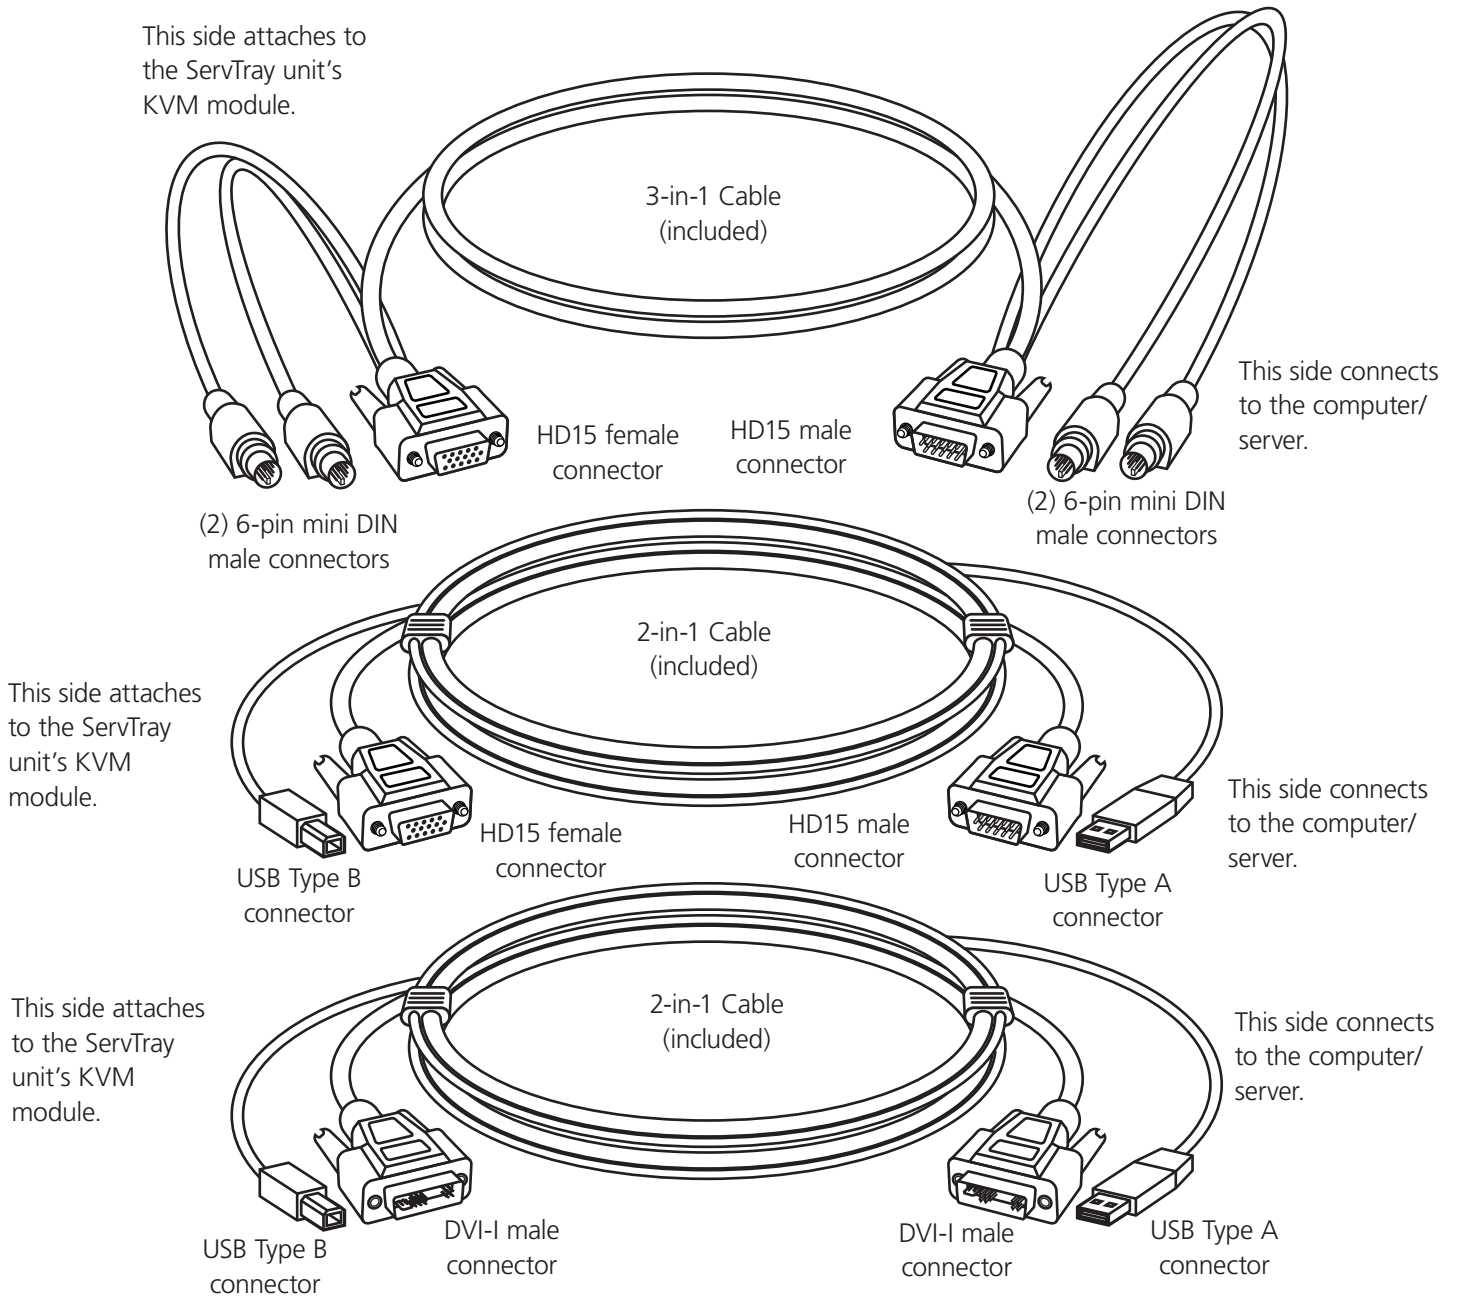

Figure 3-1. 3-to-1 PS/2 cable and 2-to-1 USB cables (all included).
2. Using the 3-in-1 or 2-in-1 cable (all cables included, see Figure 3-1), connect the HD15 VGA female or DVI male, keyboard, and mouse connectors on the cable to the console VGA, keyboard, and mouse ports on the back of the module.